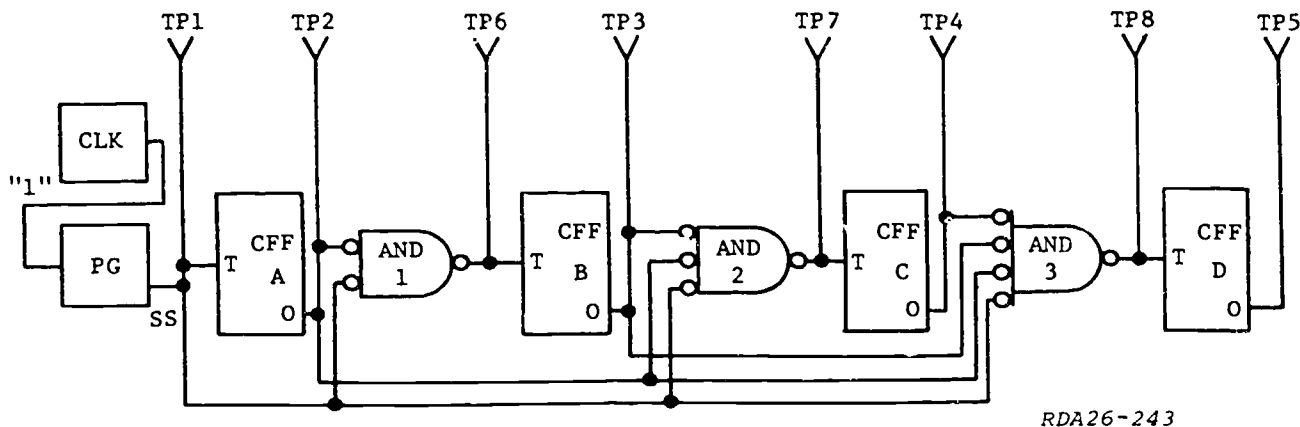

Figure 1-21. Counter (objective 008, exercises 6-9).
6. What is the maximum value the counter in figure 1-21 can contain?
7. If the counter of figure 1-21 is set to a count of 12 (10), how many pulses will it take for the counter to reach a count of 0?
8. What identifies the counter of figure 1-21 as a parallel counter?